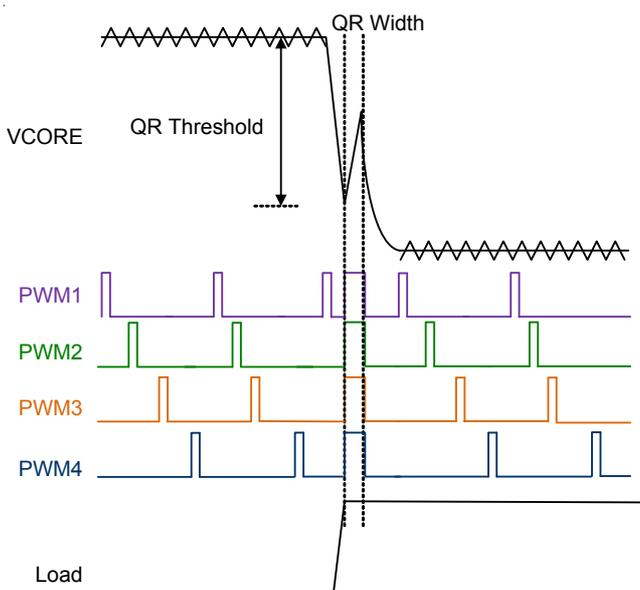
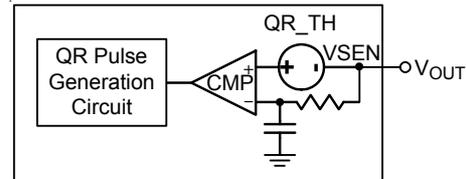

Figure 8. Quick Response Mechanism
Figure 9. Quick Response Triggering Circuit
**Quick Response (QR) Mechanism**
When the transient load step-up becomes quite large, it is difficult loop response to meet the energy transfer. Hence, the output voltage generates undershoot to fail specification. The RT8881A has Quick Response (QR) mechanism which is able to improve this issue. It adopts a nonlinear control mechanism which can disable interleaving function and simultaneously turn on all UGATE one pulse at instantaneous step-up transient load to restrain the output voltage drooping, Figure 8 shows the QR behavior.
The output voltage signal behavior needs to be detected so that QR mechanism can be triggered. The output voltage signal is via a remote sense line to connect at the VSEN pin that is shown in Figure 9. The QR mechanism needs to set QR width and QR threshold (In SVI mode, only QR threshold can be set in SET2 pin, QR width is  $1.1 \times T_{ON}$ ). Both definitions are shown in Figure 8. The QR threshold setting for VDD controller refers to Table 4 and Table 5.